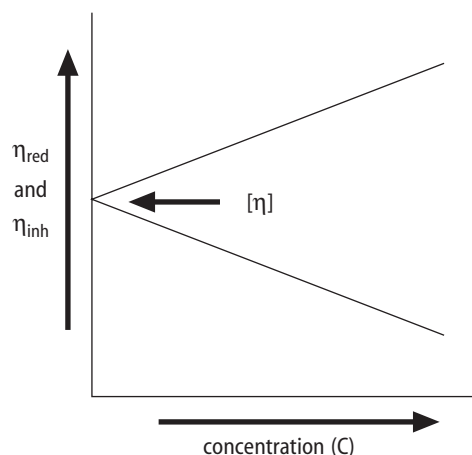

Figure 1 Plot of η_{red} and η_{inh} vs. concentration, C.
1. The average efflux time (t_i) is used to determine a reduced viscosity (η_{red}) and an inherent viscosity (η_{inh}) for each concentration (C). Both η_{red} and η_{inh} are plotted vs. C and the y intercept(s) determined. (See Figure 1.) This value (or the average value if the intercepts are not the same) is the intrinsic viscosity, $[\eta]$. The viscosity average molecular weight, M_v , can be calculated from the intrinsic viscosity by the Mark-Houwink-Sakurada equation: